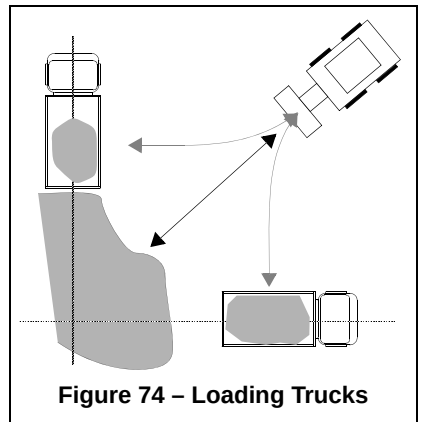

Figure 74 – Loading Trucks
- (Figure 74) The truck and machine working direction should form an angle of 45°.